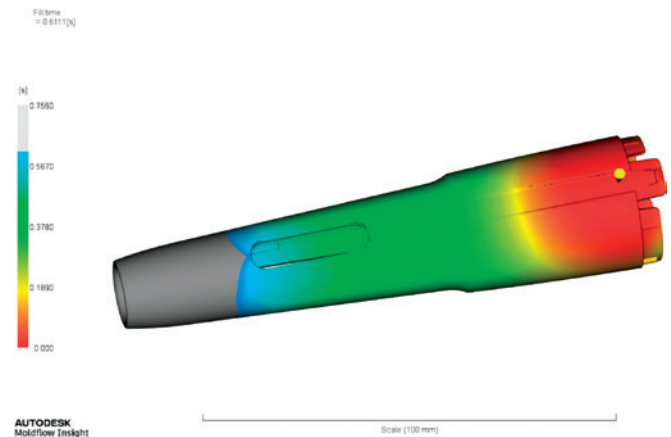

Figure 3: Filling simulation, identification of weld lines.
- Approximation of the location of weld lines (Figure 3)